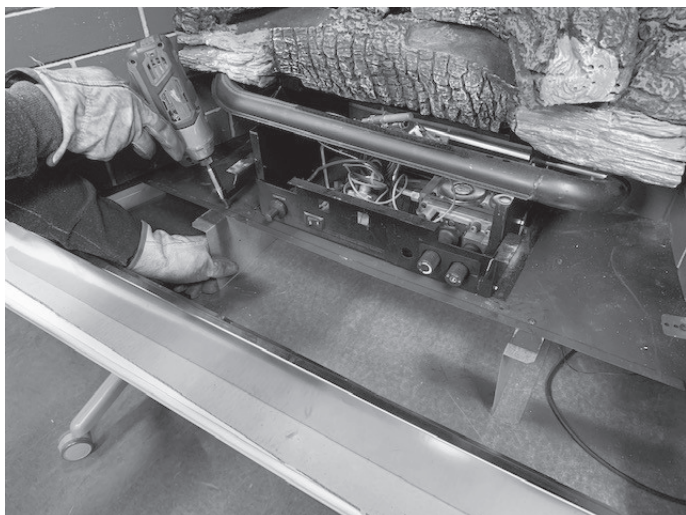

Figure 8.5
2. Remove (2) screws securing the front edge of both the right and left firebox supports. See Figure 8.5.